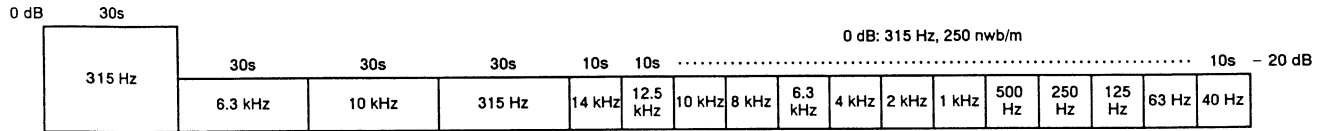

Fig. 9-3 Constants of the test tape STD-331E
- STD-331E : Playback adjustments (See Fig. 9-3)